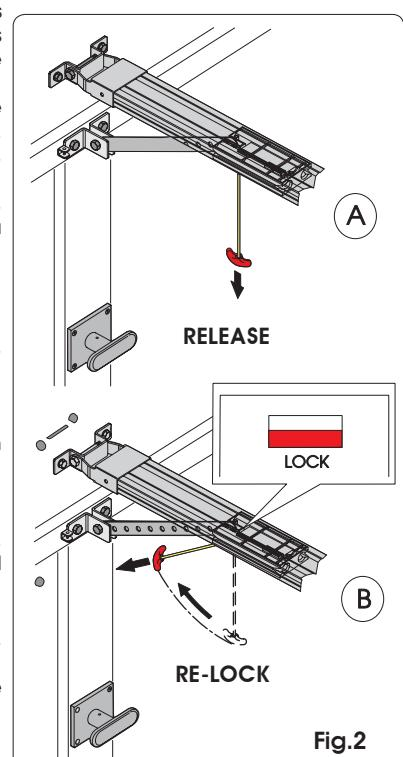

Fig.2
- Release the operator, by pulling the release handle downward (Fig. 2 ref. A).
- Relock the automated system by pulling the handle horizontally (Fig. 2 ref. B) and make sure that, when you release it, the "LOCK" window under the carriage is red, to confirm correct resetting.